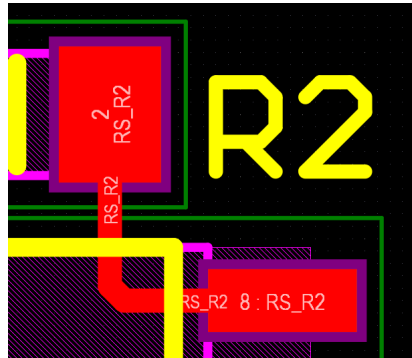

Figure 41: Screenshot showing some clever routing beneath an IC
- Feel free to get creative with your routing! Sometimes it is possible to even route under components, as shown in Figure 41. As you can see, we are still using our best practices of ending the traces in the centers of the pads and avoiding 90 degree angles, we just found additional routing space under the IC. Note that you can't do this with all ICs because sometimes they have pads beneath them, but if not, you can certainly use this technique. You can also route beneath resistors and capacitors if there is space. However, NEVER route beneath a crystal oscillator unless you are on a different layer (we'll see this later).